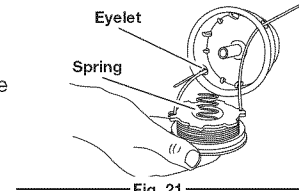

Fig. 21
13. Insert or slide the ends of the line through or into the eyelets in the outer spool and place inner reel with spring inside the outer spool (Fig. 21). Push the inner reel and outer spool together.
5. Insert or slide the ends of the line through or into the eyelets in the outer spool (Fig. 21).